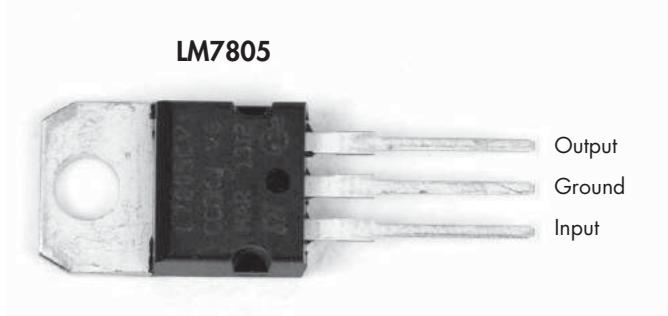

Figure 3-5: Pinout of the LM7805 5V regulator
11. Insert the LM7805 into the breadboard, as shown in Figure 3-7. (See Figure 3-5 for the pinout of the LM7805.)